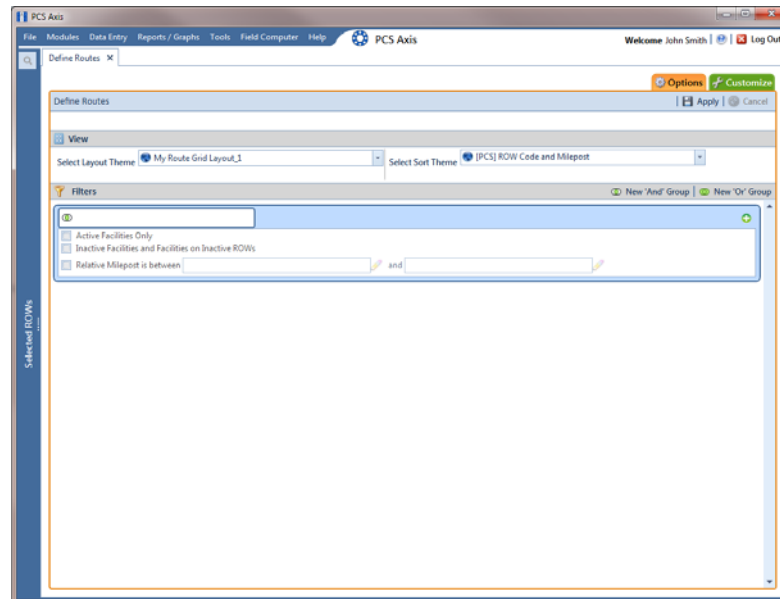

Figure 8-43. Options
- a Click the **Options** tab  to open the options page (Figure 8-43, page 396).